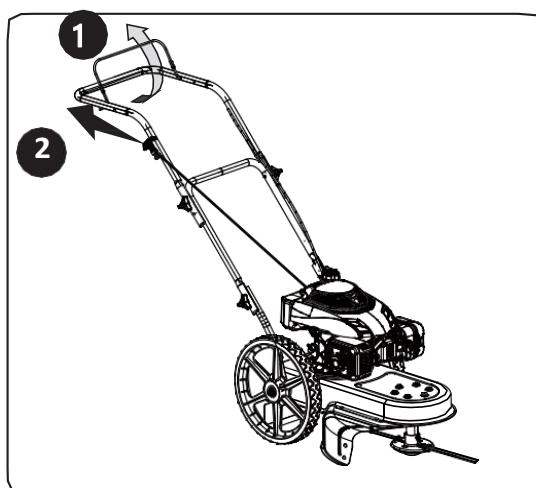

Figure 5-2
1. Press the priming pump one or two times and depress control lever. See Figure 5-2 ①. and pull the starter rope to start the engine. See Figure 5-2 ②.